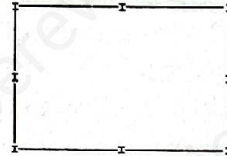

Figure 9
42. The floor plan of the steel structure in Figure 9 below shows that this structure has